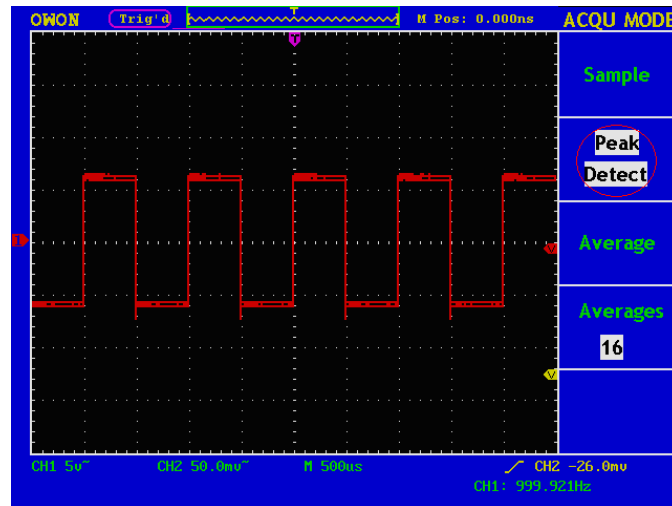

Fig.6-4 Signal with Noises
2. Press **F2** to select Peak Detect function. The signal displayed on the screen containing some noise, by turning on Peak Detect function and changing time base to slow down the incoming signal, any peaks or burr would be detected by the function. (See **Fig.6-4**).